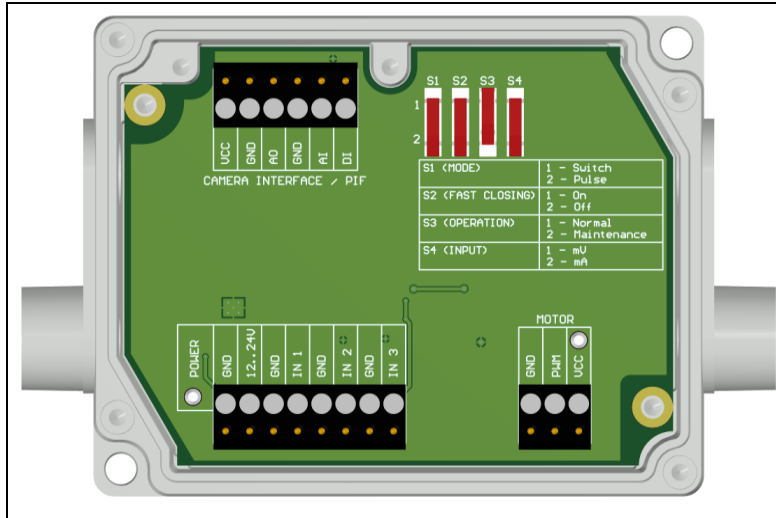

Figure 15: Control box of shutter, dimensions (see **Figure 7**)
- When using more than one shutter and the opening / closing of the shutter should be simultaneously, the switch S4 on one control box must be set to mA and the others to mV (see **Figure 15**).